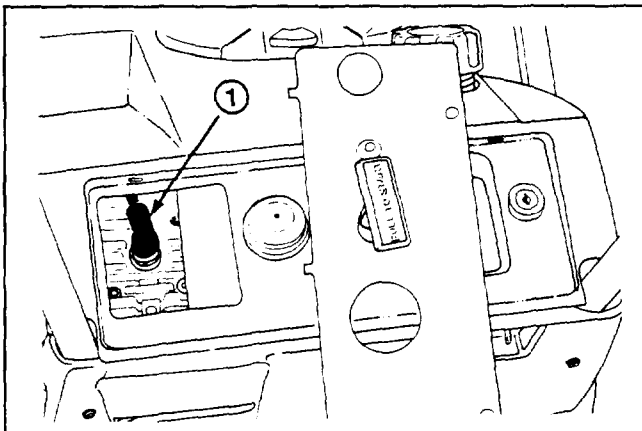

Figure 16
2. REMOVE SPARK PLUG (Fig. 16) — Pull wire off spark plug and remove plug. Examine the plug and replace if cracked, fouled, or dirty. **DO NOT SAND-BLAST, SCRAPE, OR CLEAN SPARK PLUG BECAUSE DIRT MAY RELEASE AND FALL INTO CYLINDER CAUSING ENGINE DAMAGE.**